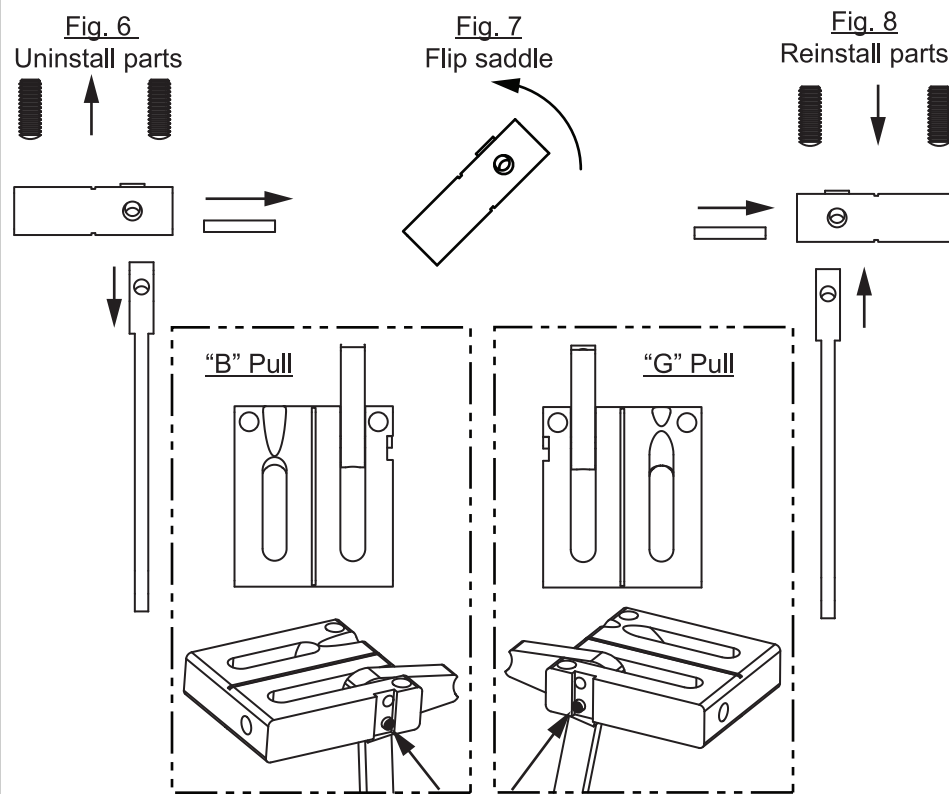

Fig. 9
3. Flip the saddle **Fig. 7** & reinstall adjustment screws & bender finger **Fig. 8**. Note: pins are installed on lower hole on both configurations **Fig. 9**.